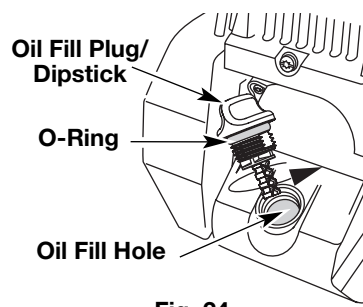

Fig. 24
- If the level is low, add a small amount of oil to the oil fill hole and recheck (Fig. 24). Repeat this procedure until the oil level reaches the top of the dipstick.
NOTE: Make sure the O-ring is in place on the oil fill plug/dipstick when checking and changing the oil (Fig. 24).